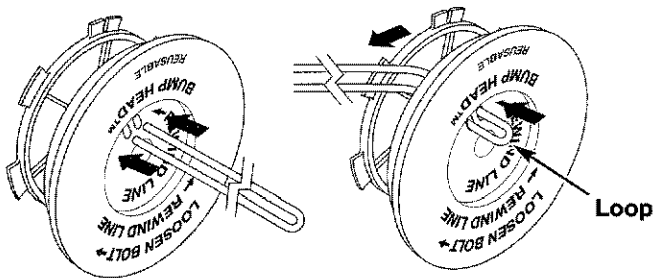

Fig. 35
- Take approximately 30 feet (9.14 m) of new trimming line, loop it into two equal lengths. Insert each end of the line through one of the two holes in the inner reel (Fig. 35). Pull the line through the inner reel so that the loop is as small as possible.